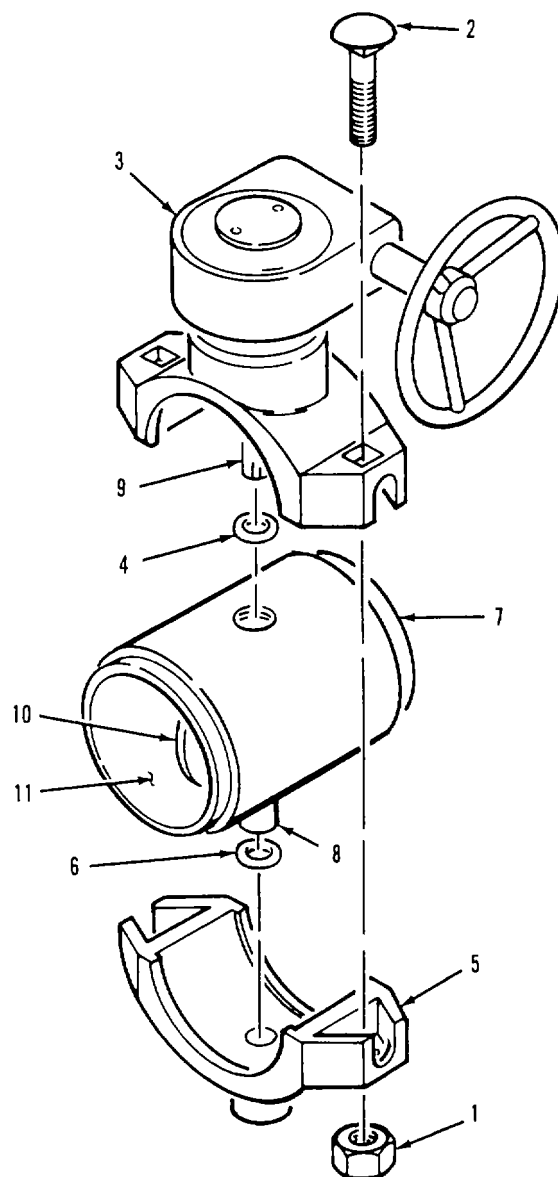

Figure 4-25. Butterfly Valve Disassembly.
a. Disassembly. Refer to figure 4-25.
(1) Remove two nuts (1) and bolts (2).
(2) Separate upper housing (3) from barrel assembly (7).
(3) Remove packing (4) from drive shaft (9).
(4) Separate lower housing (5) from barrel assembly (7).
(5) Remove packing (6) from shaft (8).